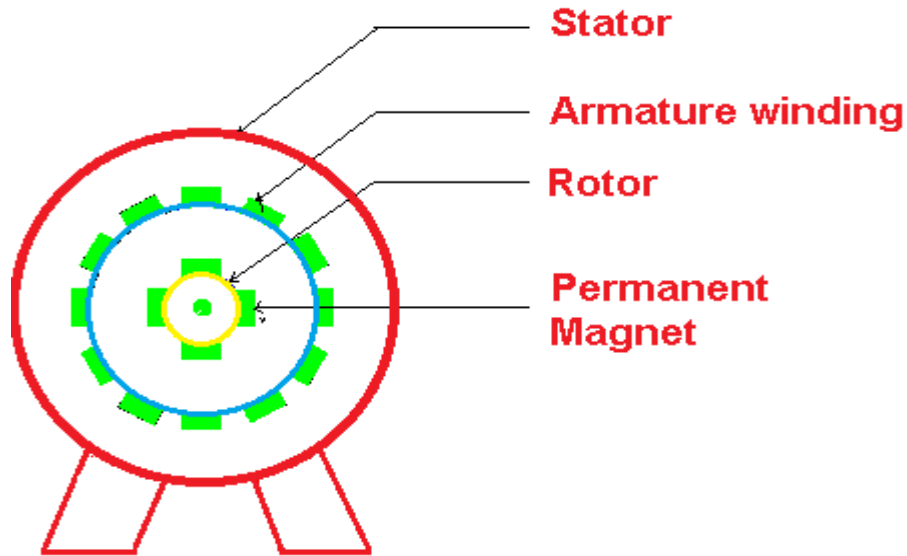

Fig.3.8 Brushless servo motor
- Figure 3.8 shows the structure of brushless servo motor. The stator consists of an armature core and armature winding. The armature core is made of laminating punched silicon steel sheet of 0.35 to 0.5mm thickness.